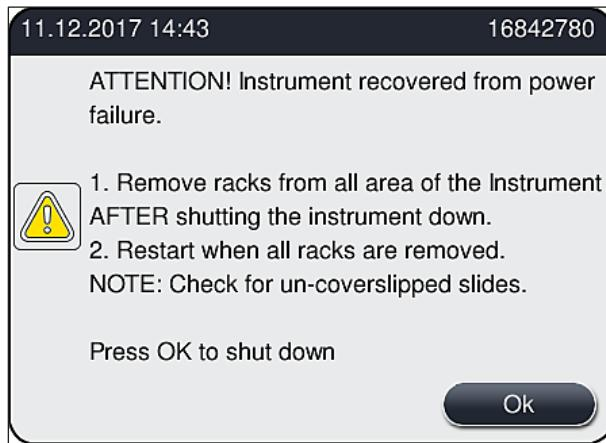

Fig. 108
- After the power supply has been restored, the instrument automatically performs a restart. The user is notified of the power failure by an information message (→ Fig. 108) on the screen, and the event is entered into the event log.
- ① After power supply has been restored, the instrument restarts automatically. An audible warning signal sounds and a warning message is displayed on the display (→ Fig. 108).
Then follow the instructions in the information message (→ Fig. 108) and remove the slides from the instrument.